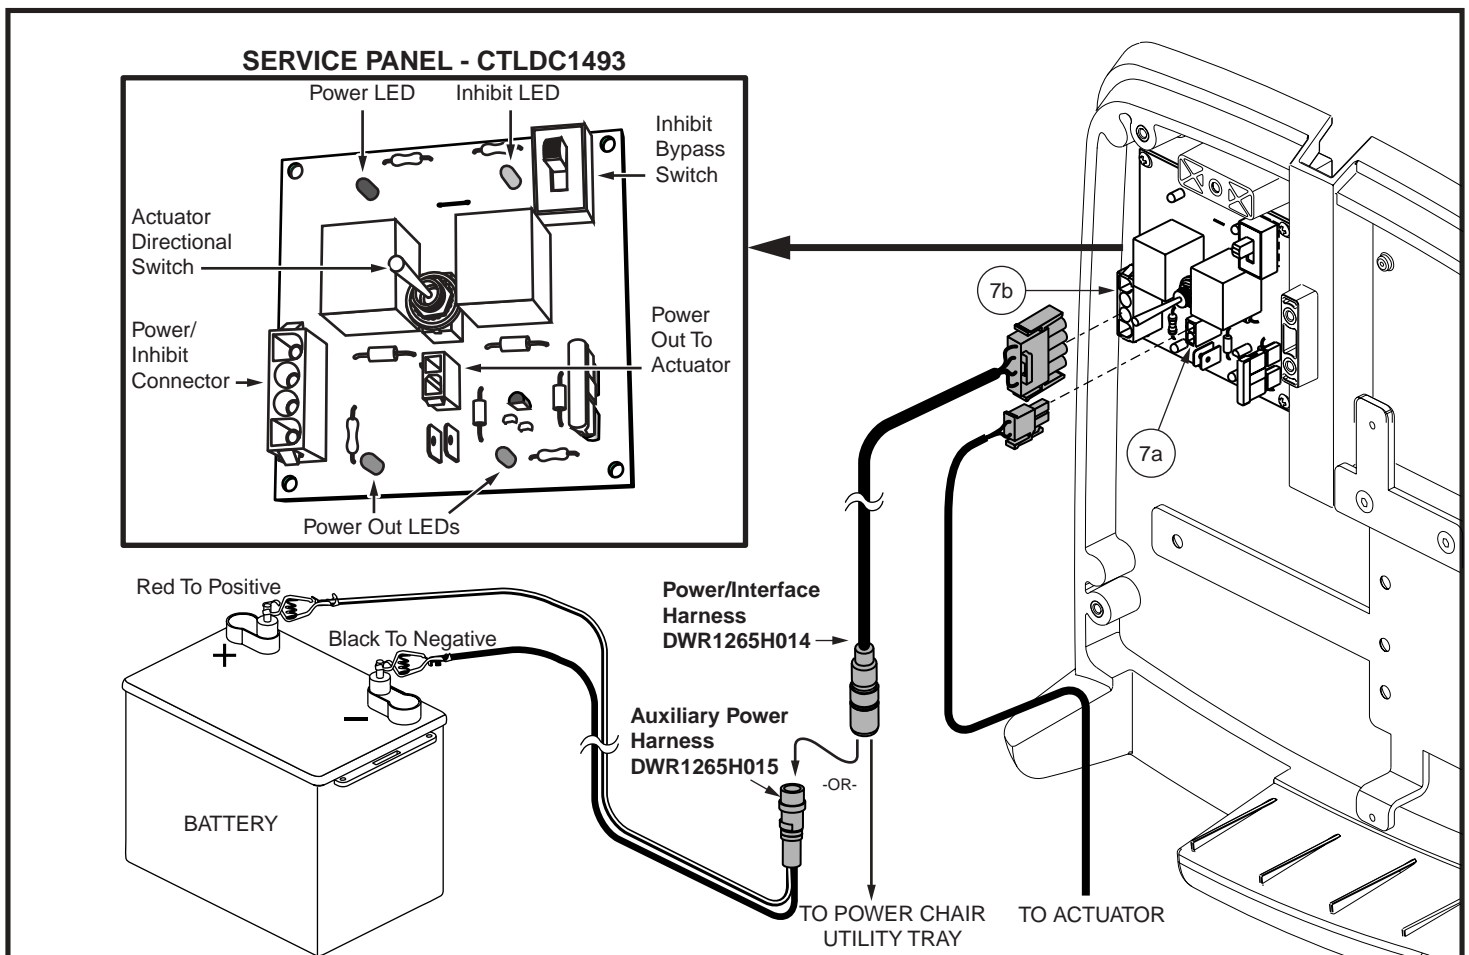

Figure 10. Service Panel Overview
7. Deflect the toggle switch on the service panel. Observe the LEDs under the toggle switch and actuator for movement. **See figure 10.**
- If the LEDs under the toggle switch light (depending on the deflection of the switch), and the actuator does not function, then replace the actuator (6) and retest the system. **See figure 10.**
- If the actuator does function, then replace the AAM (5) and retest the system.
The TRU-Balance 2 Power Tilt is equipped with a service panel for troubleshooting purposes. Two harnesses are included with the service panel and are stored in a pouch located in the power pod at the rear of the seating system. **See figure 10.**